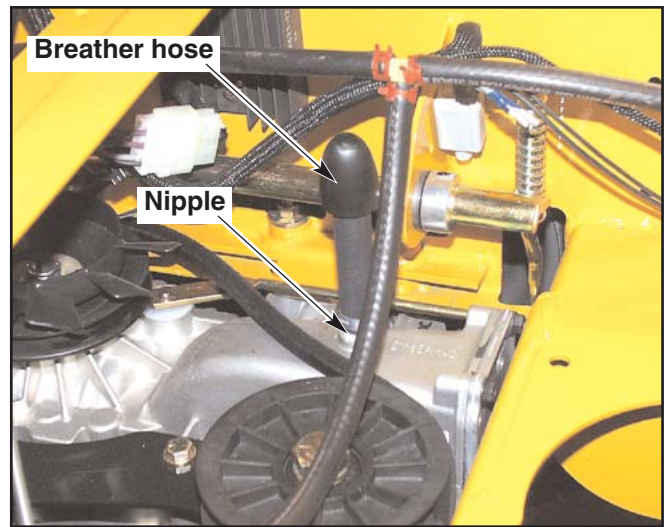

Figure 9-8
7. Remove the breather hose and nipple from the top of the transmission and fill with new, clean 20W50 engine oil. It will require approximately 2 - 2.46 quarts of oil to fill the transmission. Re-attach the nipple and breather hose. Fig. 9-8